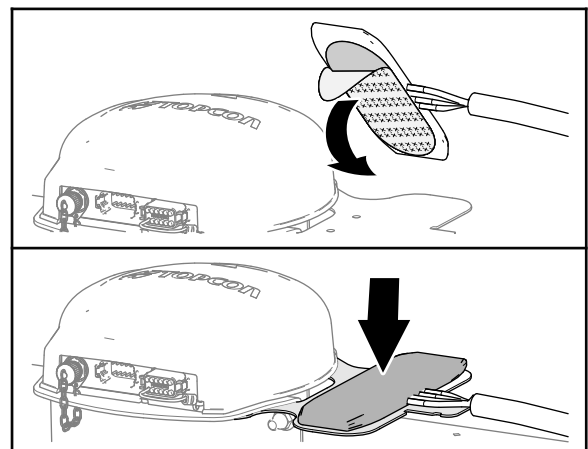

Figure 53
2. Remove the backing from the double sided adhesive liner at the bottom of the modem antenna (Figure 53).
3. Adhere the modem antenna to the top of the modem-antenna bracket as shown in Figure 53.